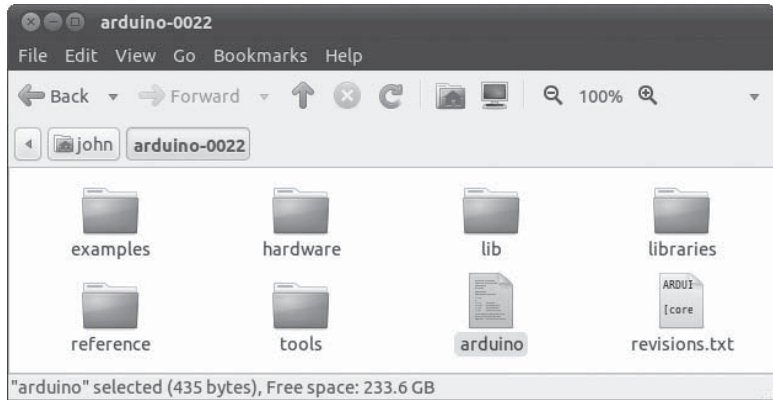

Figure 1-26: Your Arduino IDE folder with the arduino file selected
1. Connect your Arduino to your PC with the USB cable. At this point you want to run the Arduino IDE, so locate the *arduino-0022* folder you copied earlier and double-click the *arduino* file that's selected in Figure 1-26.